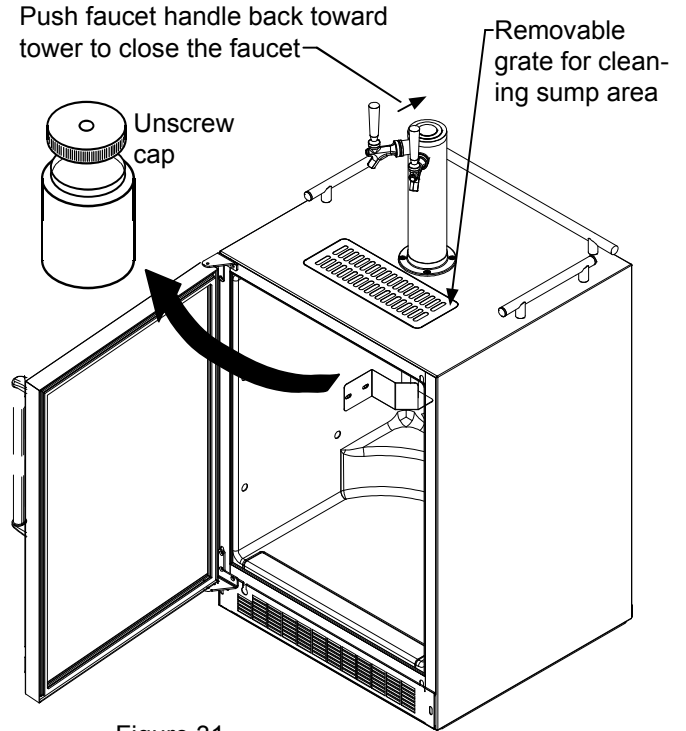

Figure 31
2. Be sure the faucet handle is closed on the tower (see Figure 31).
On a **free standing kegerator** remove the grate from in front of the tower, clean with soap and water and dry before reinstalling. Clean the sump area with soapy water and dry. (See figure 31).
Turn off the gas supply with the shutoff valve under the regulator (see Figure 31) and open the faucet to relieve the pressure. To remove the faucet from the tower use the spanner wrench provided. Place the pin on the wrench into the hole in the faucet collar and turn clockwise ~ to remove the faucet. (See Figure 35).